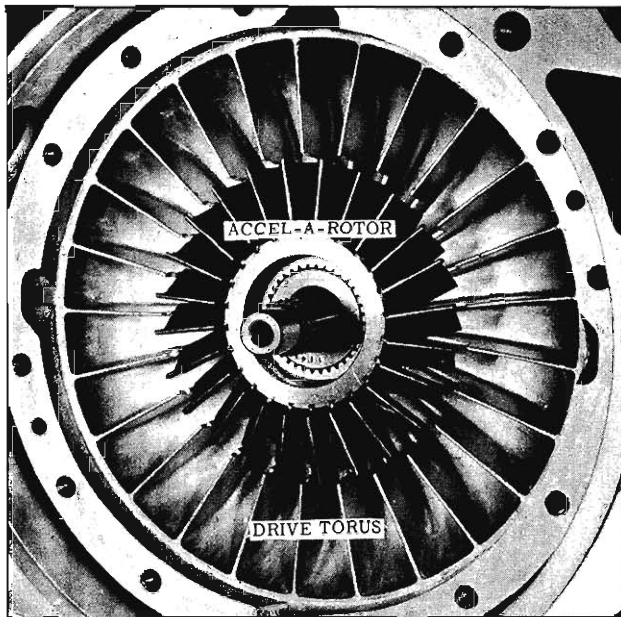

Fig. 6-109 Accel-A-Rotor Installation
4. Install Accel-A-Rotor into drive torus aligning splines and position Accel-A-Rotor so that the I.D. of the hub of the Accel-A-Rotor is flush with the planet carrier shaft. (Fig. 6-109) A light tap with a plastic hammer may be required.